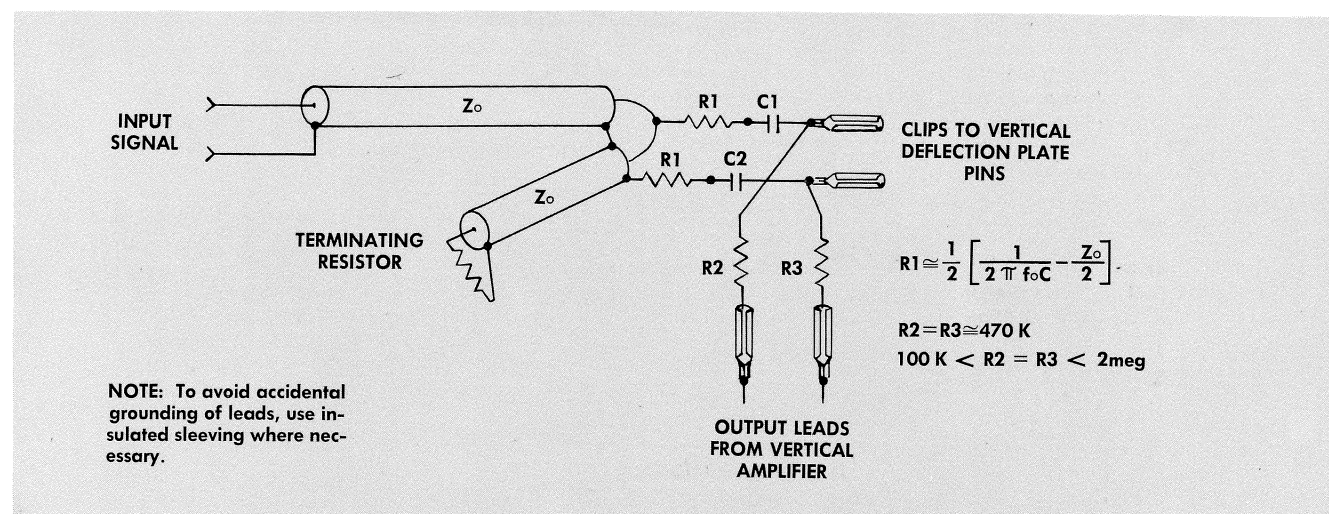

Fig. 3-14. Detailed method of ac-coupling the signal directly to the vertical deflection plates.
A typical circuit for ac-coupling directly to the vertical deflection plates is shown in Fig. 3-14. This circuit permits the internal vertical amplifier of the oscilloscope to be bypassed, but still allows the normal dc operating and positioning voltages to be applied to the deflection plates from the internal vertical amplifier.
To find the resonant frequency (f_0) of the lead inductance and the deflection plate capacity (C) for use in solving the equation of Fig. 3-14, proceed with the method which follows. Turn off the oscilloscope power and disconnect the vertical amplifier output leads to the crt. Cut a wire which equals the total length of C1, C2, R1, R1, R2, and R3. Substitute the wire lead for these components between the vertical deflection plate pins. Bring a grid-dip meter near the lead and measure the resonant frequency.
The value for R1 is found by solving the equation given in Fig. 3-14.